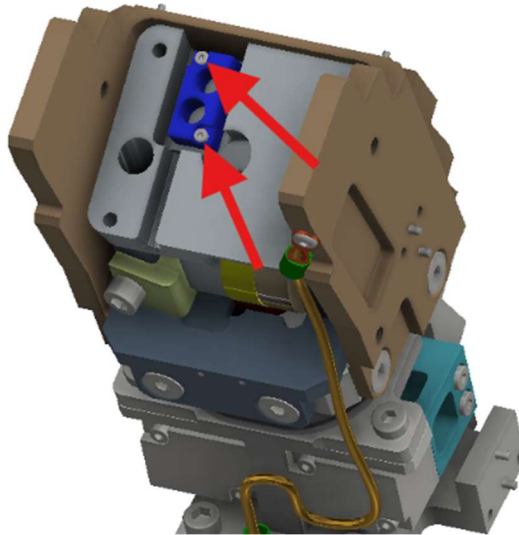

Figure 5-44. Install the T1 Tilt Sensor (SA572-S44) on the Neck Posture Adjustment Assembly (474-3050)
- 5.3.8 Install the T1 Tilt Sensor (SA572-S44) to the Neck Posture Adjustment Assembly (474-3050) with two M2 X 0.4 X 10 LG. SHCS (Figure 5-44).